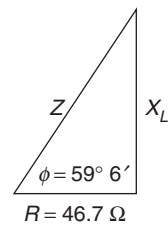

Fig. 33
20. Calculate Z and X_L in Figure 33.